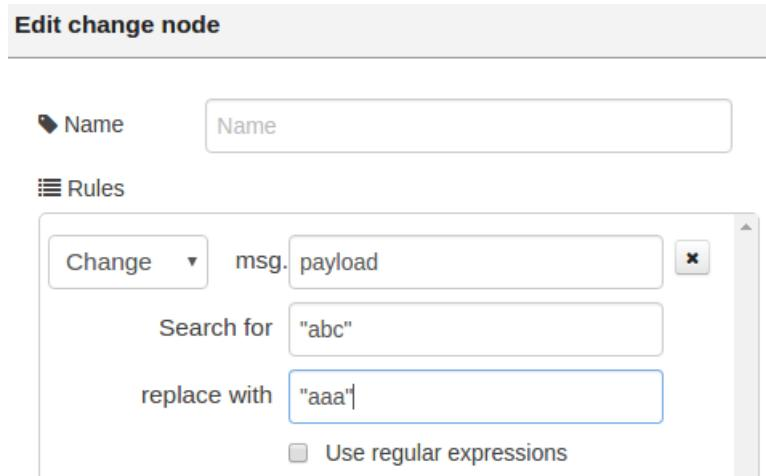

Figure 99: Change node properties
- change - searches and replaces parts of the specified property (figure 99);